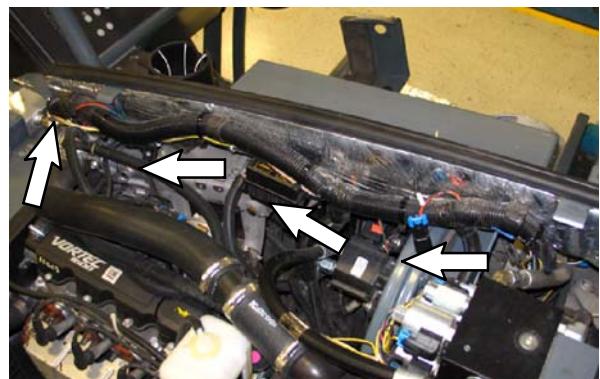

FIG. 5
22. Route the *ec-H20* harness along the bottom of the main wire harness and to the front of the machine. Refer to Fig. 5.